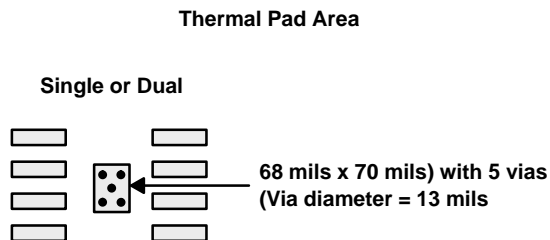

Figure 31. PowerPAD PCB Etch and Via Pattern
1. Prepare the PCB with a top side etch pattern as shown in Figure 31. There should be etch for the leads as well as etch for the thermal pad.